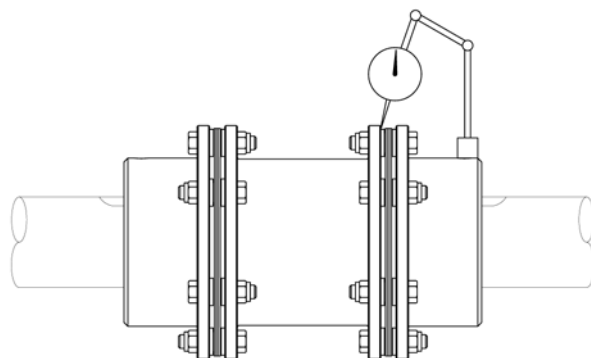

Figure 3
1. Attach a dial indicator to each hub. Indicate a point on the nearest spacer flange face as shown in Figure 3. Any method may be used to attach the dial indicator to the hub as long as it is firmly attached.